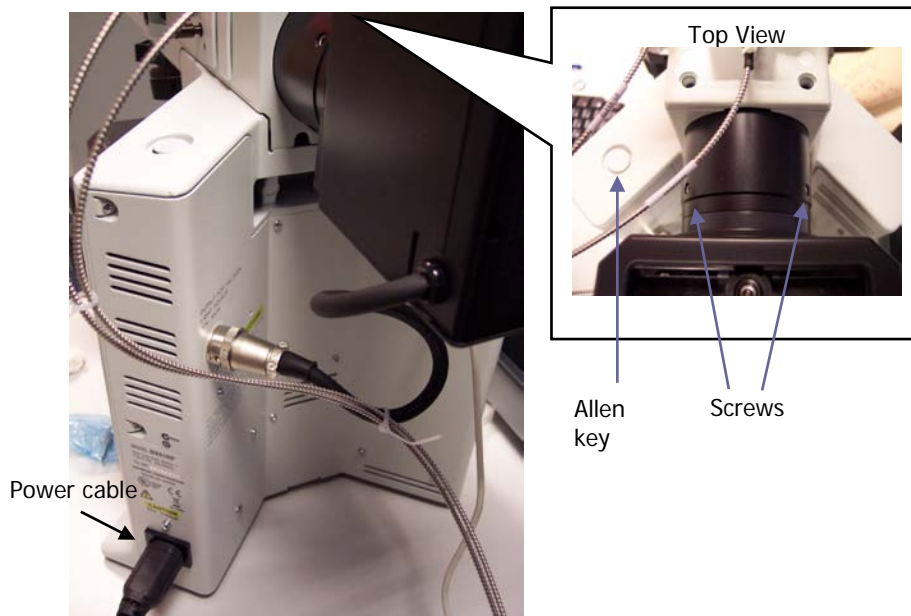

Figure 18 Attaching the illumination source to the microscope
2. Using the allen key supplied (Figure 18), fasten the two screws so that the source is supported.
3. Connect the power cable from the microscope to the mains supply (Figure 18), and then switch on the microscope.